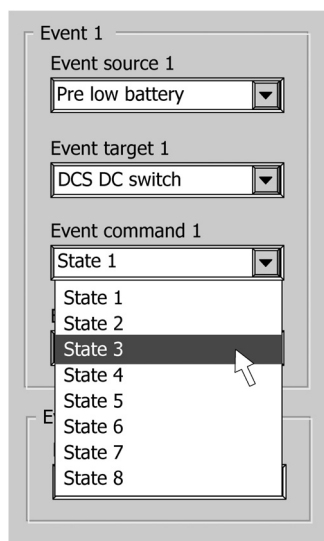

Figure 16
- Next select which parameter must be changed at the target: *Event command*. (Example: The state of switch 3) (figure 16).